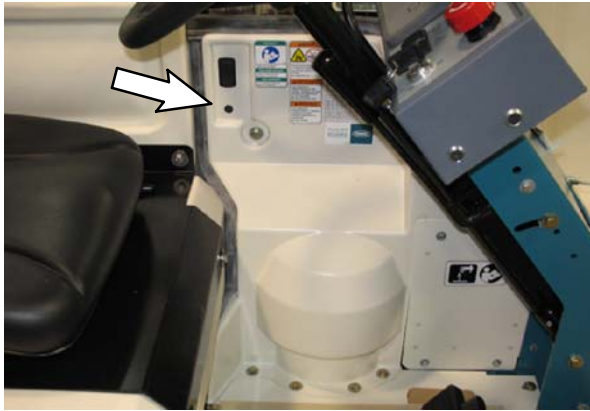

FIG. 2
4. Remove the motor cover panel from the operator compartment. Set the hardware and panel aside. Refer to Fig. 2.